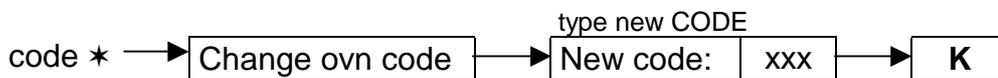

Figure 13
- ◆ Change of a guessed code requires more complicated procedure – code change with confirmation – Figure 13.